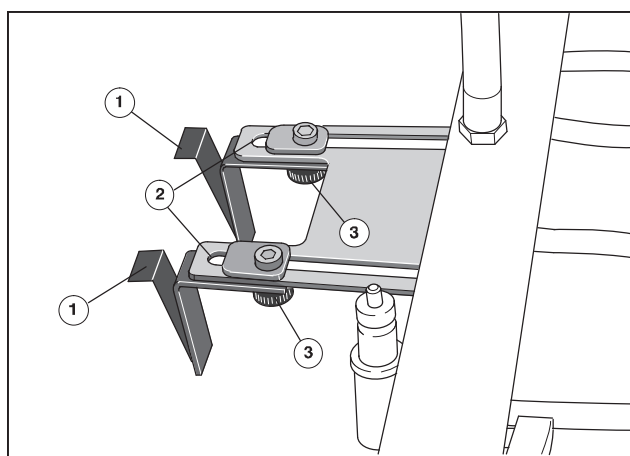

Fig. 44 Rear sheet stops
1. Slacken the knurled head screws (Fig. 44/3) on the rear sheet stops and push the sheet stops (Fig. 44/1) forwards up to the stop (Fig. 44/2).
2. Remove the knurled head screws (Fig. 44/3) with washers and take off the rear stops (Fig. 44/1).
3. Insert the rear sheet stops with extended spring and fasten them with the knurled head screws (Fig. 44/3) and washers.